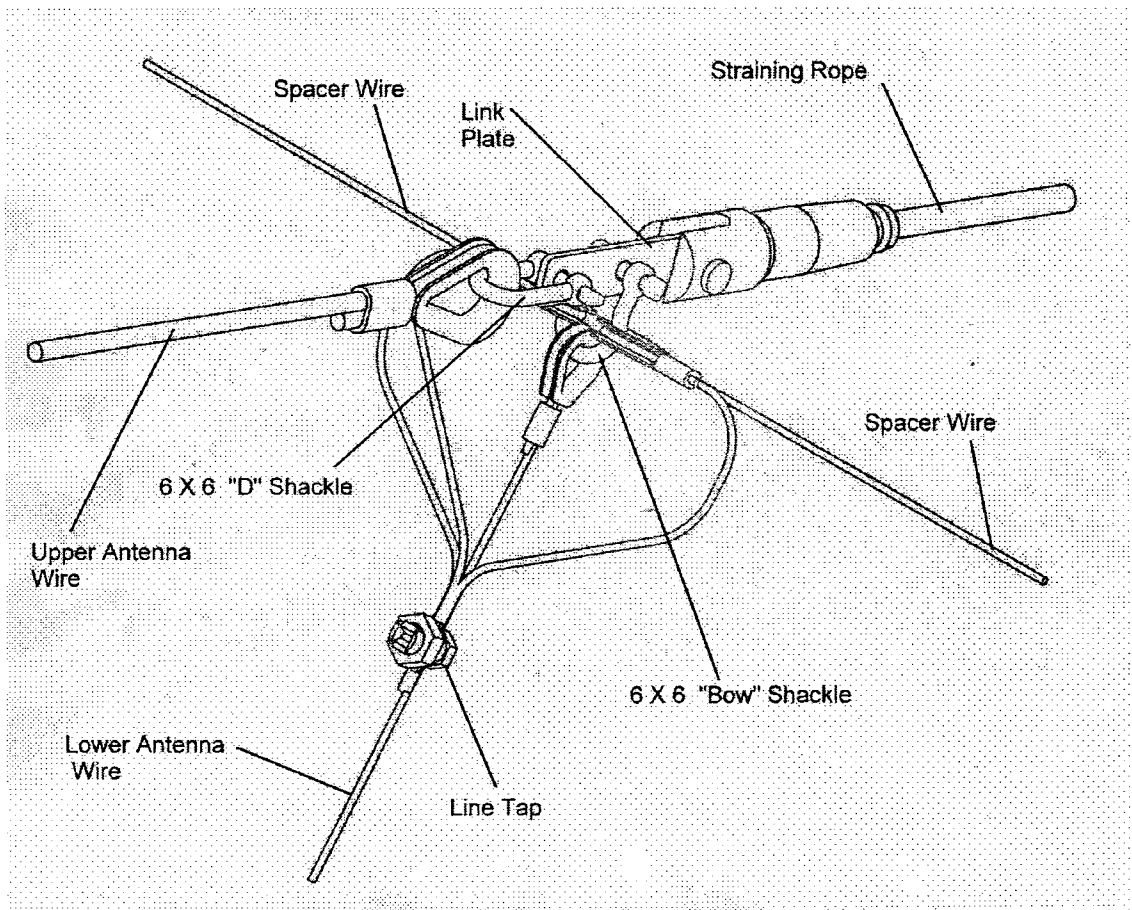

FIGURE 14A – Termination of the Wires at the Antenna Waist
Step 1 -Lay out the 12 upper antenna wires on the ground, radiating from the mast base, with the terminated flying tail nearest the mast. Fit a 6mm x 6mm D-shackle at each end. At the lower end attach the D- shackle to one end of a link plate. To the other end of the link plate attach the straining rope termination. See Fig 14A